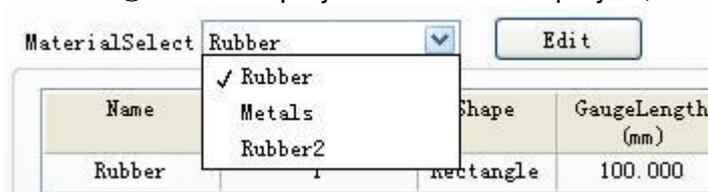

Fig. 1
- ① Select a sample or add a new sample, as Fig.1;